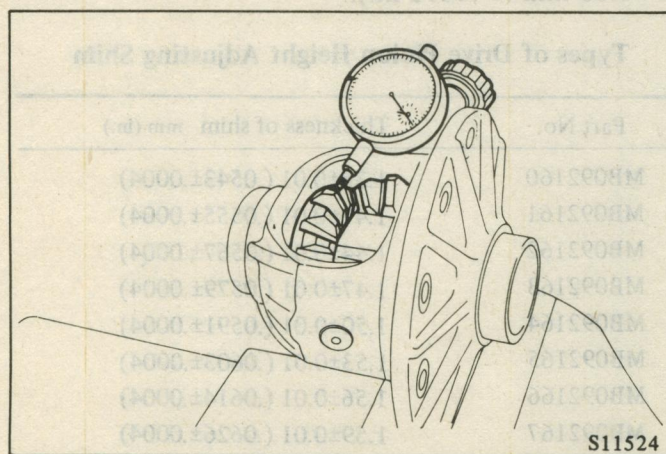

Fig. 27 Checking the Pinion and Side Gear Backlash
(1) Install the thrust spacers in the same positions behind the side gears as before disassembly. Then assemble the side gears (left and right) in the differential case.
(2) With pinion washers attached to the pinion gears, insert the both pinion gears at the same time and mesh with the side gears by rotating the pinions.
(3) Complete the temporary assembly of the differential gears by inserting the drive pinion shaft.
(4) Check the pinion and side gear backlash. If the backlash is out of the standard value, adjust it by selecting a side gear thrust spacer of proper thickness. The backlash, left and right, should be adjusted to an equal value. (Fig. 27)